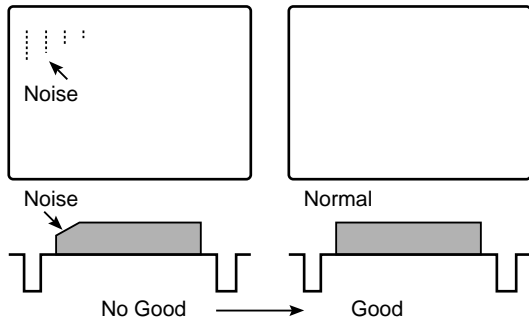

Fig. 5-3
- Turn VR7 to obtain noise on the Video Monitor, and adjust VR7 so that the noise just disappears as shown in Fig. 5-3.
- Turn VR6 to obtain noise on the Video Monitor, and adjust VR6 so that the noise just disappears as shown in Fig. 5-3.